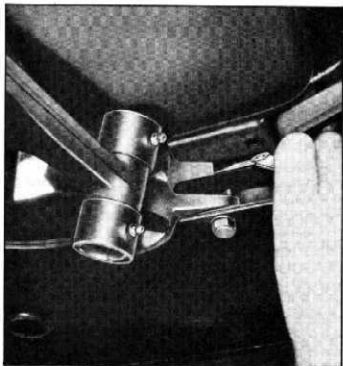

Fig. 11—Clearance Between Bracket and Front Cross Member
3. With the lower bolts tightened securely, remove the upper bolt and check space between front suspension cross member and bracket at upper mounting hole with a feeler gauge (fig. 11). Maximum allowable space at this point is .008". If space exceeds .008", add shims as necessary to bring space within allowable limit.